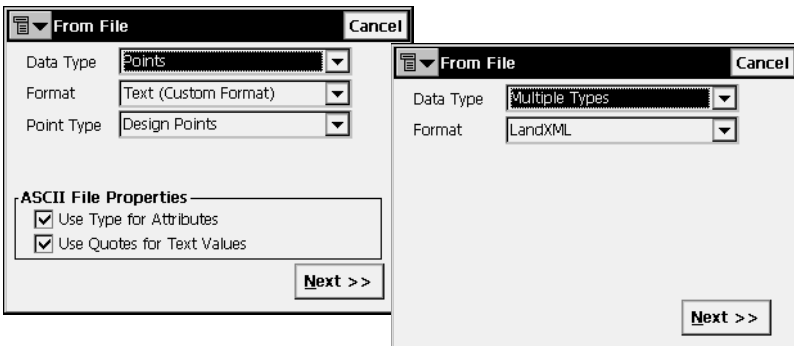

Figure 5-7. From File
- On the *From File* screen select the type of data to be imported, the type of file to be imported from, and the point type (if data type is Points or Point Lists) to import. If the Text file type is chosen, check the *ASCII File Properties* field buttons if necessary. Then tap **Next** (Figure 5-7).